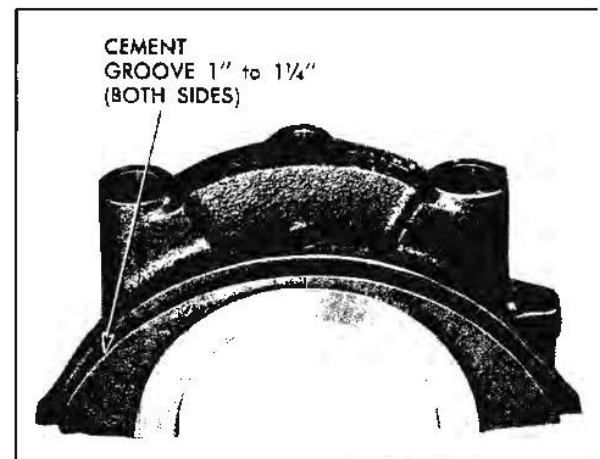

Fig. 6-126 Rear Oil Pan Gasket Positioned in Bearing
2. Install new oil pan gasket in rear main bearing cap (Fig. 6-126).
5. Install clutch (SM) and transmission to engine and install complete assembly in vehicle.